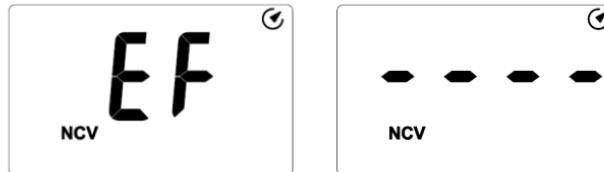

Figure 10
9. NCV measurement (see figure 10)